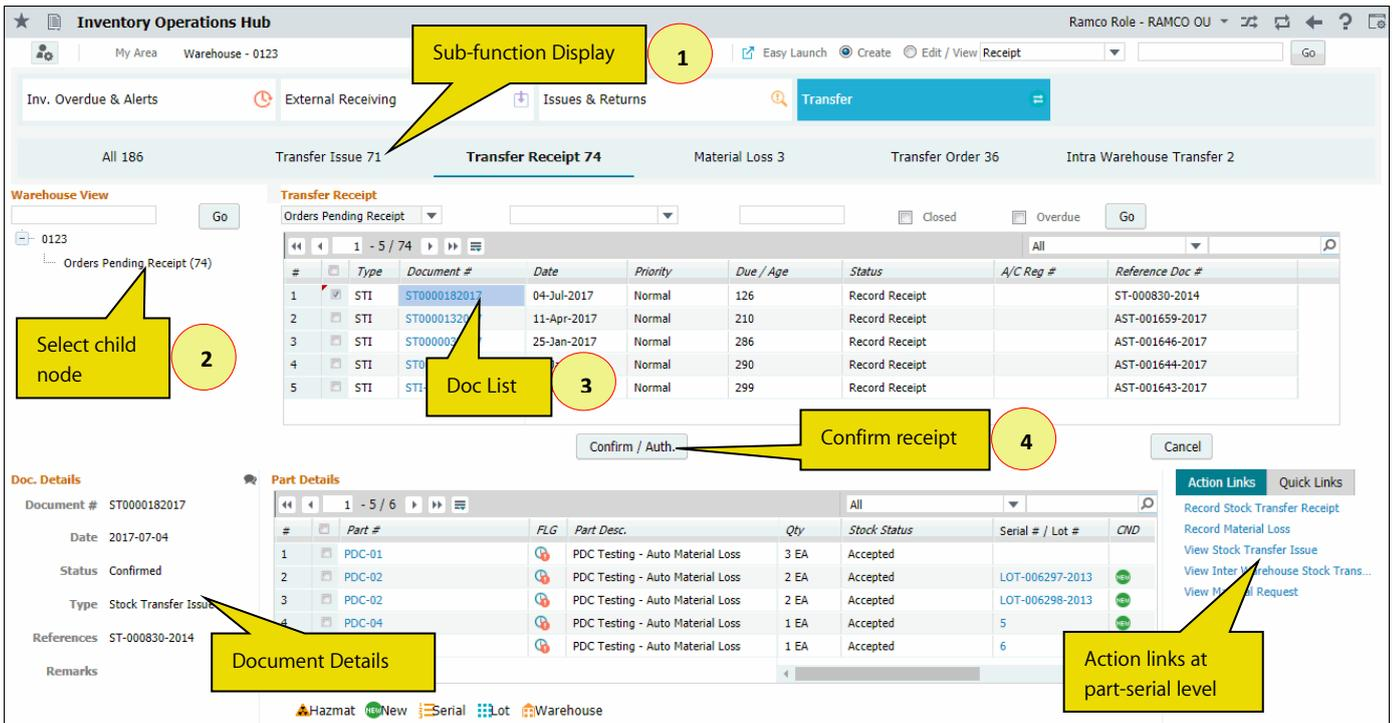

Figure 2.12 Receiving parts in other warehouse
1. Select the 'Transfer Receipt' sub-function. See Figure 2.12.